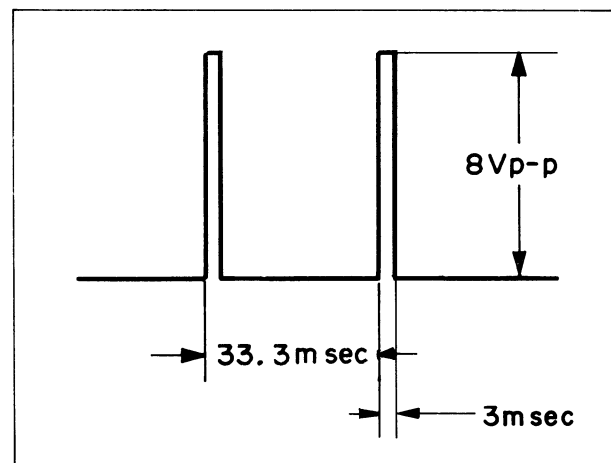

Fig. 5-6. TP-4 Discri pulse-1
3. Next, connect the oscilloscope to TP-4 and verify that the DISCRI PULSE-1 is 8 volts p-p as shown in Fig. 5-6.